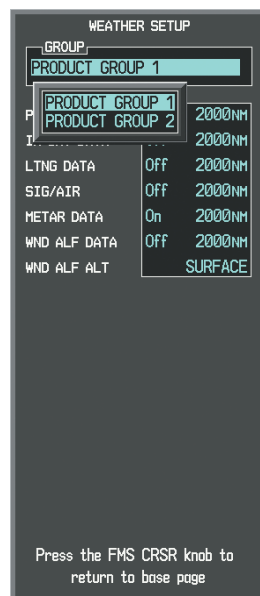

Figure 6-54 Weather Data Link (GFDS) Page Setup Menu
- 4) Turn the small **FMS** Knob to select 'Product Group 1' or 'Product Group 2', and press the **ENT** Key (Figure 6-54).